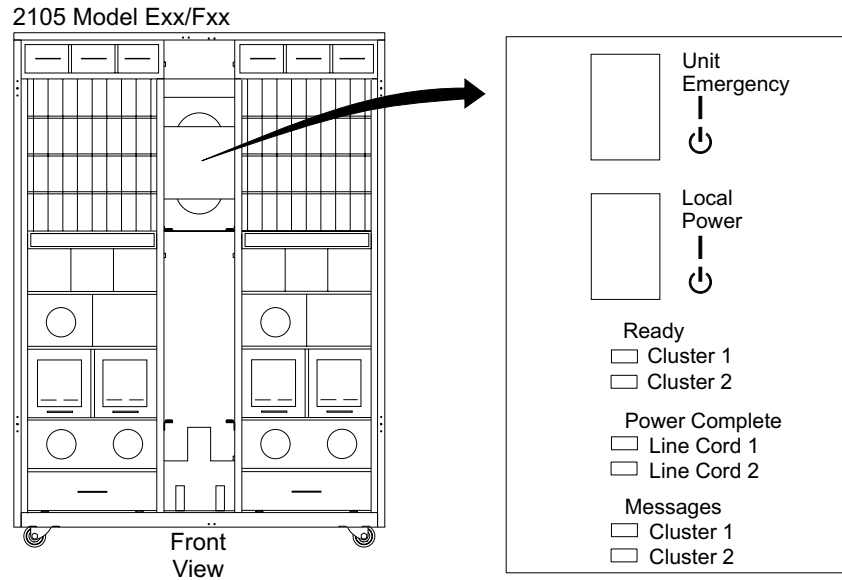

Figure 130. 2105 Model Exx/Fxx Operator Panel Locations (S008810m)
- Go to the operator panel on the front of the 2105 Model Exx/Fxx. Press the Local Power switch, in Figure 130, to On (up) for about two seconds.